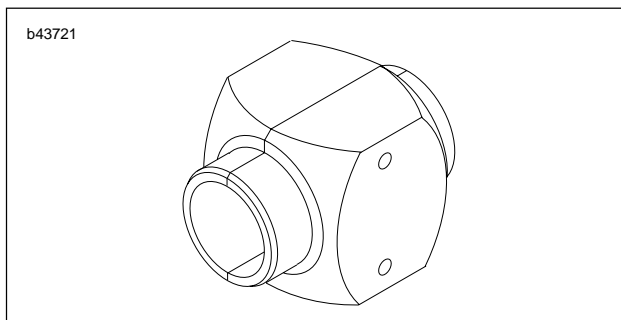

Figure 2-64. Fork Seal Driver
7. See Figure 2-67. Drive the guide bushing (22) with the seal spacer (23) and oil seal (24) into position in the outer tube using a FORK SEAL DRIVER (Part No. B-43721). See Figure 2-64.
8. Install the oil seal stopper ring (25) and a **new** dust seal (26).